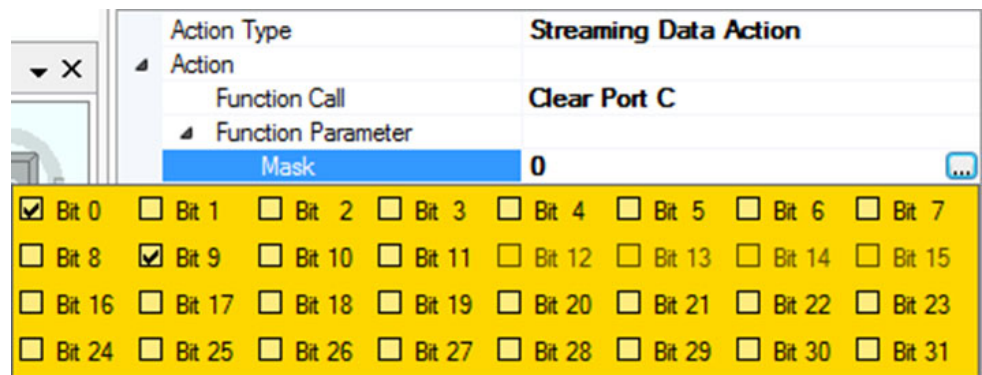

Figure 163: Clear Port C
1. Sets bits of Port C to 0. This can turn off GPIO or turn off the output enable for a GPIO. Figure 163 (below) shows a configuration which will turn off the output enable for GPIO[1], turn off GPIO[0], and not adjust the output enable for GPIO[0].